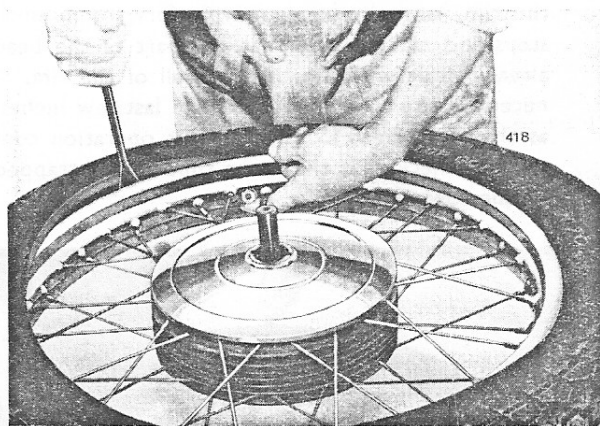

Fig. F18. Refitting the second bead with the security bolt in position
- (1) Fit the rim band.
- (2) Fit the first bead to the rim without the inner tube inside.
- (3) Assemble the security bolt into the rim, putting the nut onto the first few threads (see F17).
- (4) Partly inflate the inner tube and fit it into the tyre.
- (5) Fit the second bead but keep the security bolt pressed well into the tyre, as shown in Fig. F18 and ensure that the inner tube does not become trapped at the edges.
- (6) Fit the valve stem nut and inflate the tyre.
- (7) Bounce the wheel several times at the point where the security bolt is fitted and then tighten the security bolt nut.